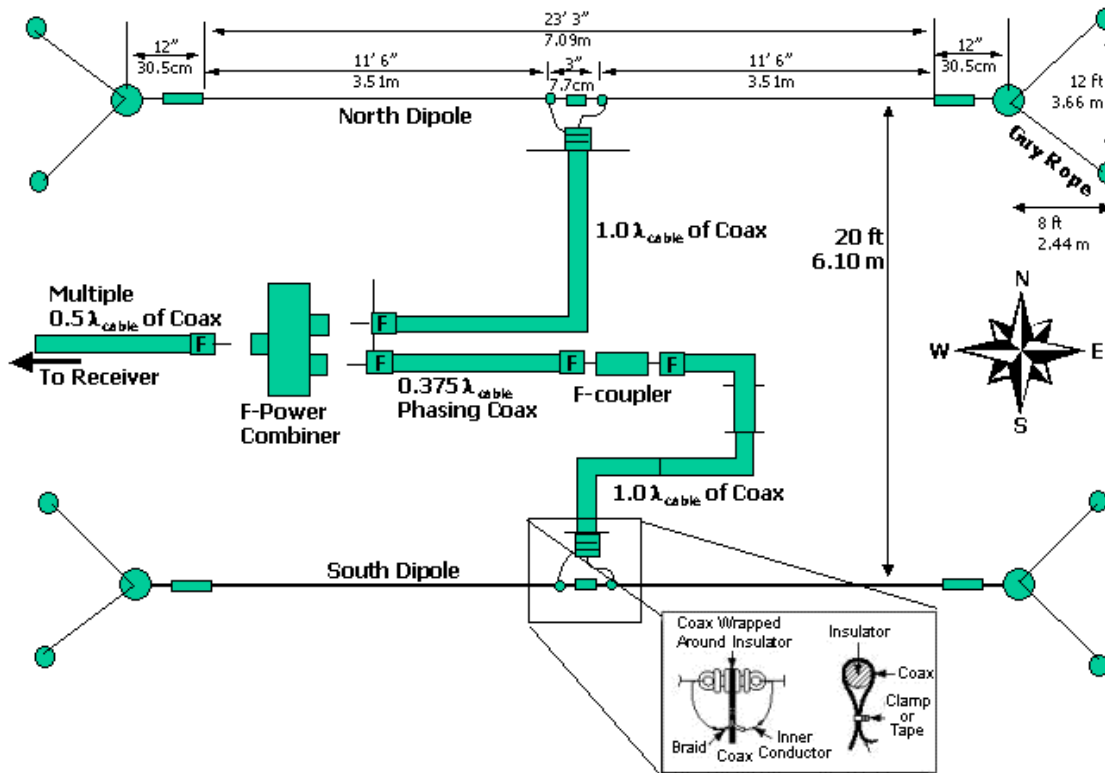

Figure 5.2. Top-view schematic of Radio JOVE dual dipole with phasing cable.
1. Connect all coax cables as shown in Figure 5.2. Make sure that all F-connectors are snug.